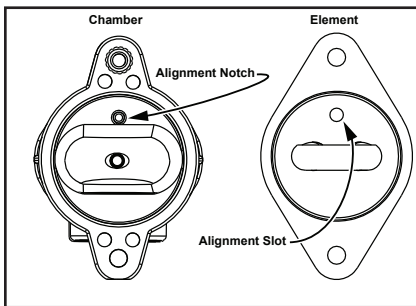

Figure 21 - Chamber Alignment Notch, Element Slot.
**2** Install the element, mating the element slot with the chamber alignment notch. Secure the element by sequentially tightening the mounting bracket screws. **DO NOT** overtighten screws. See Figure 21.